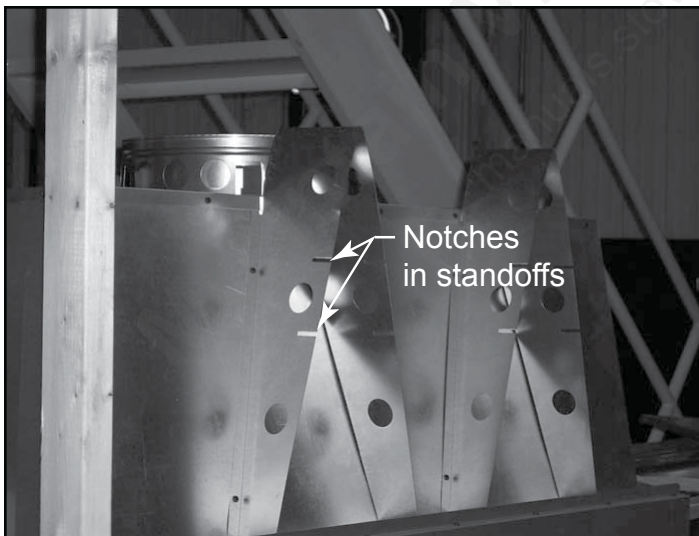

Figure 12.8 Notch in Standoffs
- Place the track into the notches (shown in Figure 12.8) on the front standoffs and secure to the framing on both sides of the fireplace (Figure 12.9).